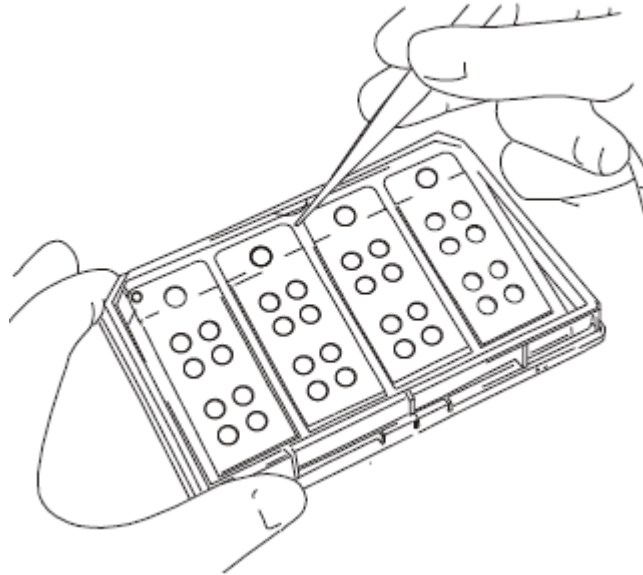
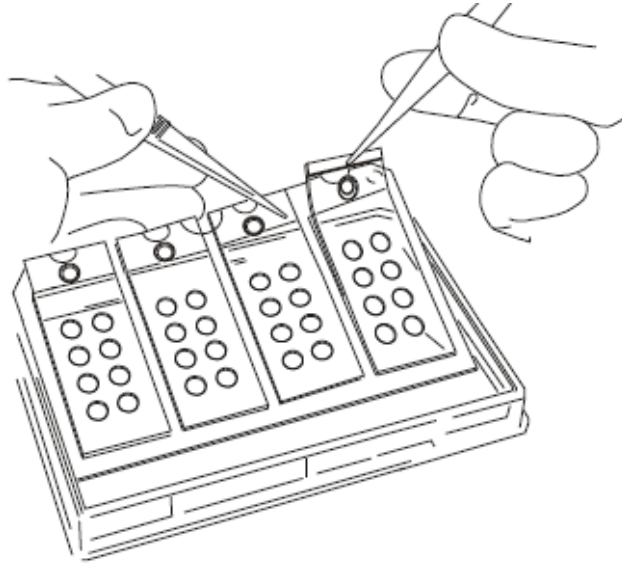

Figure 5
Figure 7
5. Figure 5 depicts how to remove a MultiWell™ insert from a plate. Grasp the insert at the central top notch with a forceps and pull slowly upward and away from you (at an angle close to the plate) to release the silicone backing from the plate surface.
- To remove a gasketed coverslip from a MultiWell insert, one may either remove the insert from the plate as described above for Figure 5 or alternatively, the notched edge of the insert may be rested on the edge of the plate as illustrated in Figure 7. Using a forceps, grasp the silicone backing affixed to the coverslip at the notch in the insert and pull slowly toward you while gently pushing the insert frame downward.